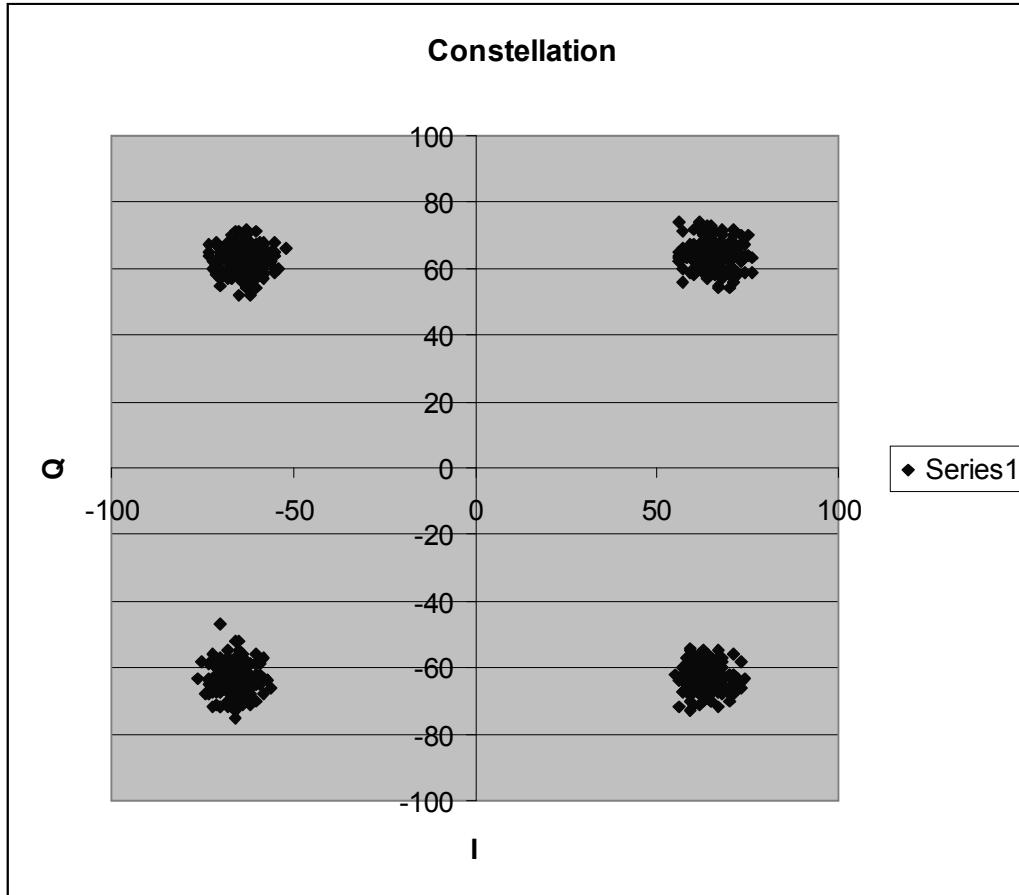

Figure 7-28 Example Constellation Graph Within Microsoft Excel
- Select *Finish* and then resize the resulting graph as desired. An example of the output is shown in **Figure 7-28**.